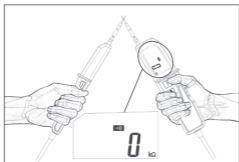
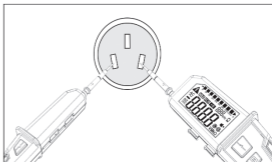

Fig. 3
Fig. 4
2. Before the test, you can manually check the tester's quality, as shown in Figure 3: Touch the metal nib of the tester L1 and L2 together, and the on-off resistance will be displayed at this time. The resistance value range should be $<5\text{k}\Omega$; select a known voltage object, and then connect the two probes to it, such as a 220V socket, to ensure the accuracy of the tester (see Figure 4). This tester cannot test AC or DC voltages below 5V. When testing a voltage of $<5\text{V a.c./d.c.}$, the LCD will display "----".